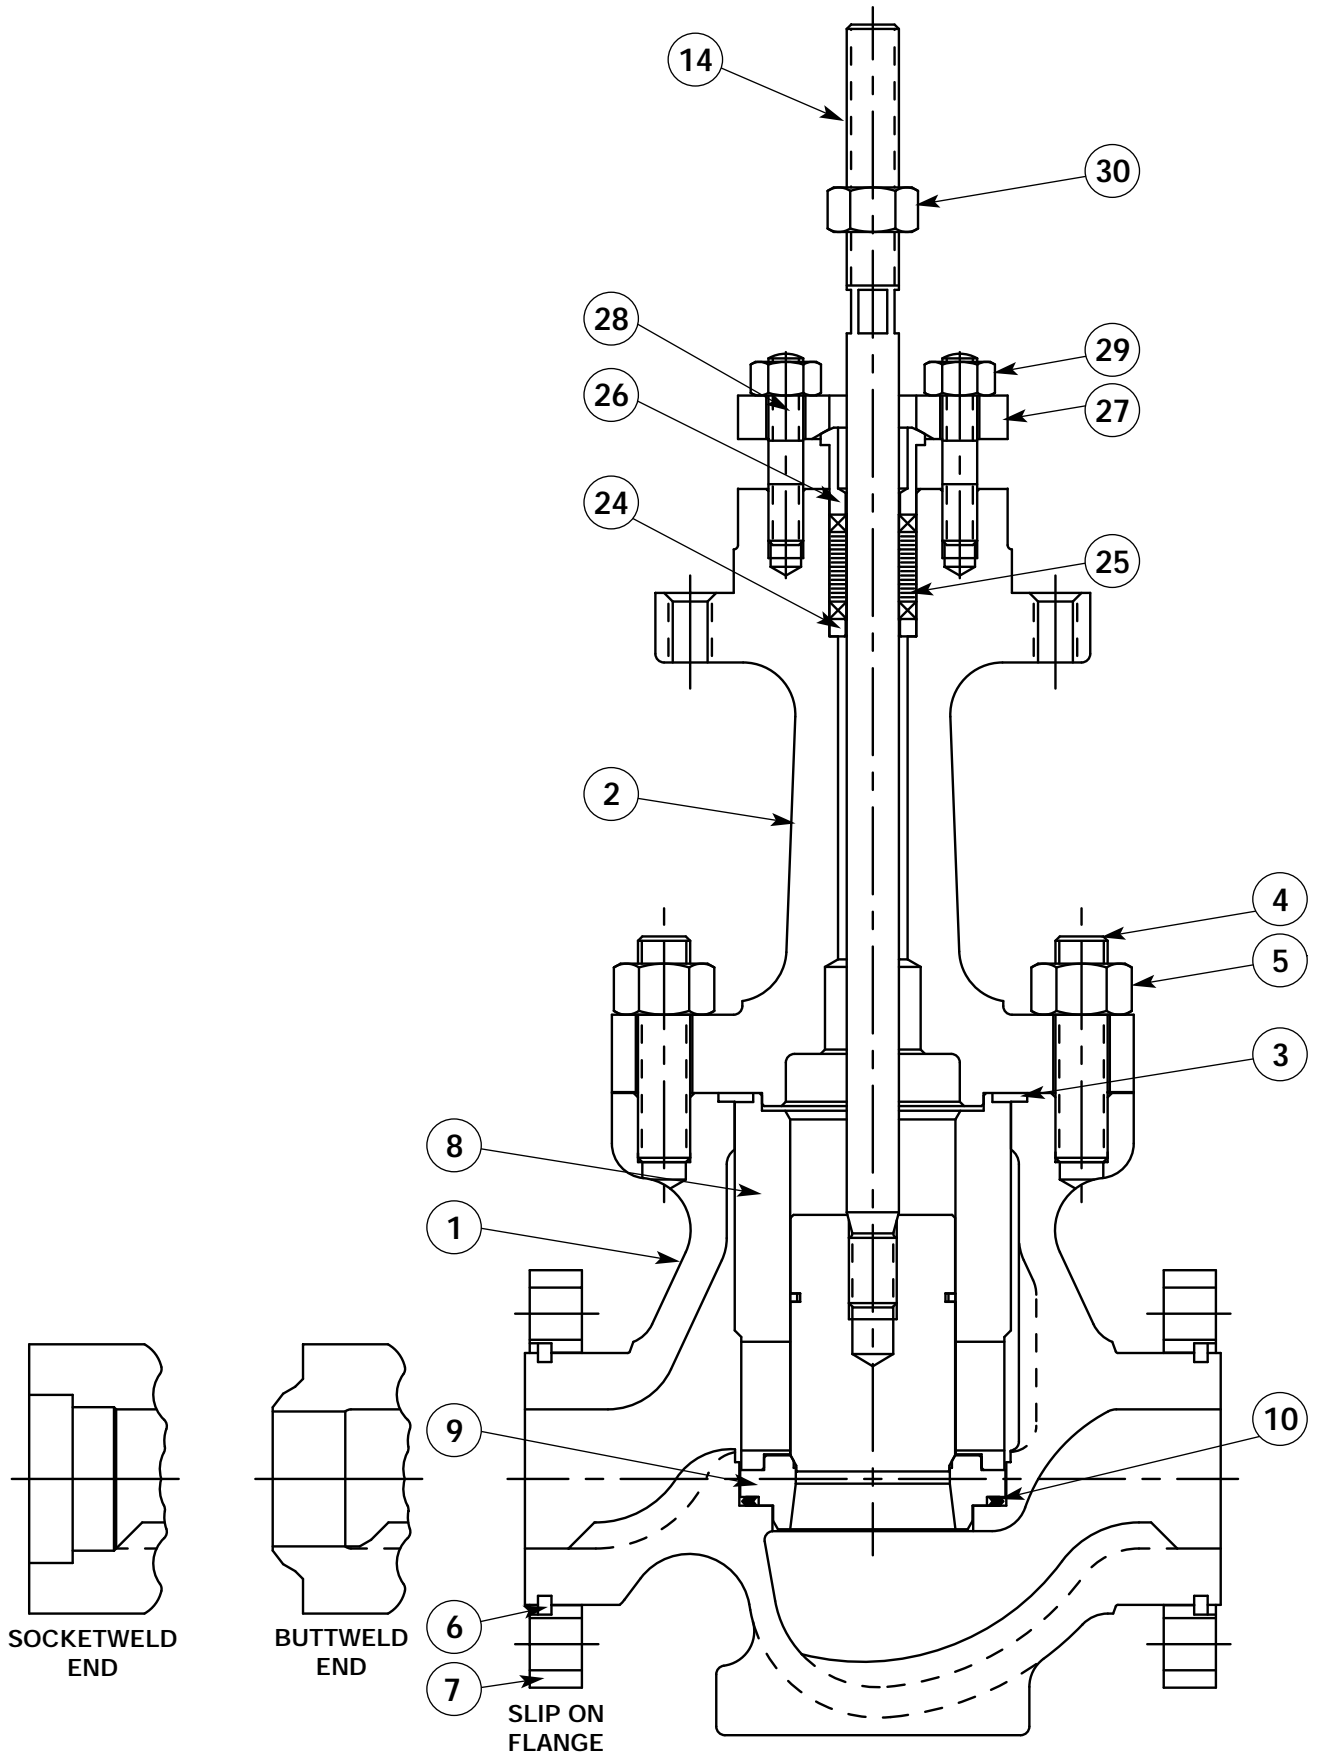

FIG. 3
6. (See Fig. 3) Remove bonnet nuts and lift bonnet straight up until it clears valve plug stem being careful not to damage threads. Take out bonnet gasket.